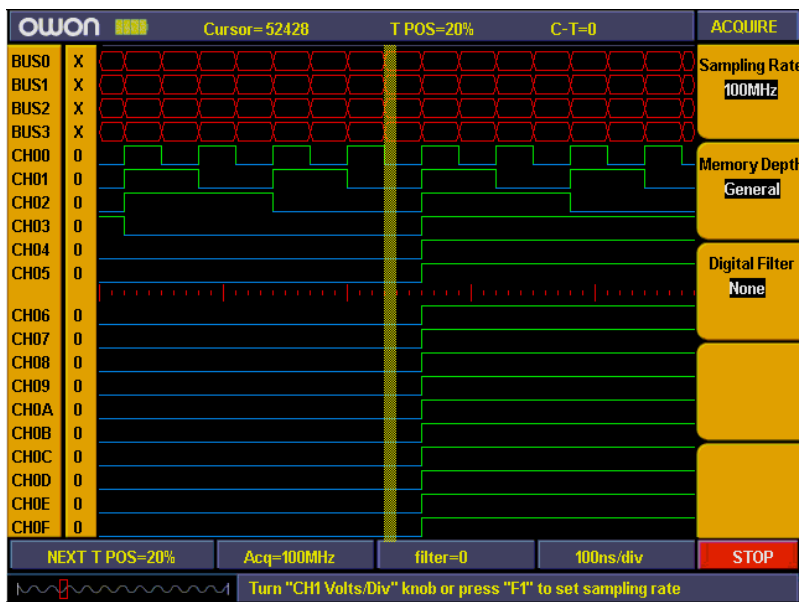

Fig 79: Sampling setting
- Then sample system setting finished (refer to Fig.79).